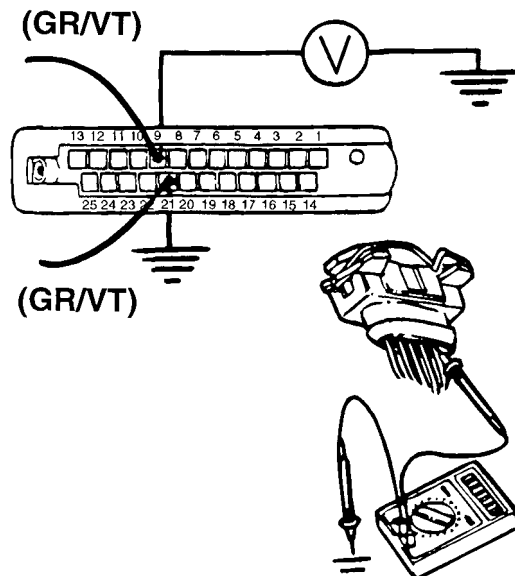

Fig. 9. Voltage being measured at air mass meter connector (pin 2 on LH 2.2 or pin 5 on LH 2.4 and LH 2.4.2) and LH control unit connector (pin 9).
3. Connect pin 21 in the LH control unit connector to ground. Turn the ignition key on and check for voltage at pin 9 of the LH control unit connector. See Fig. 9. Check for voltage at the air mass meter connector; on cars with LH 2.2 check for voltage at pin 2 and on LH 2.4 and LH 2.4.2, check for voltage at pin 5.